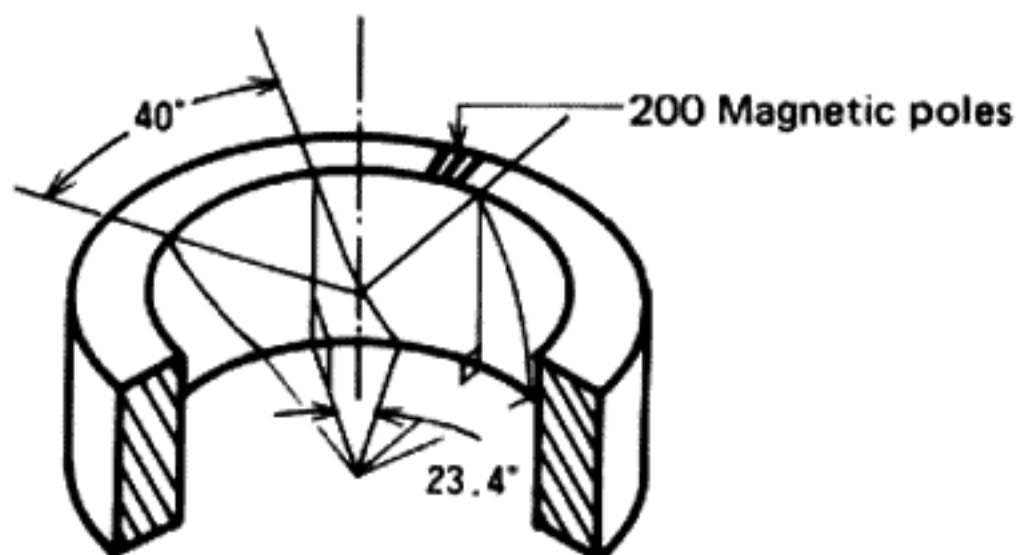

Fig. 2
5. The inner surface of the rotor magnet possesses 6 magnetic poles. As shown in Fig. 2, these are tilted by 23.4° relative to the vertical axis.